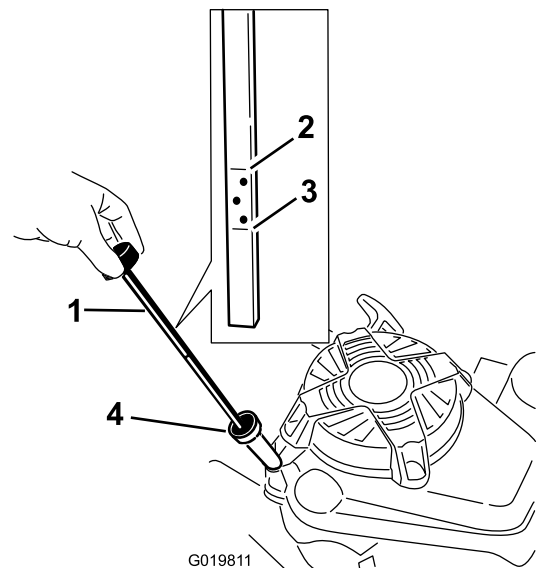

Figure 13
Before each use, ensure that the oil level is between the **Add** and **Full** marks on the dipstick (Figure 13).
2. Clean around the dipstick (Figure 13).
6. Read the oil level on the dipstick (Figure 13).